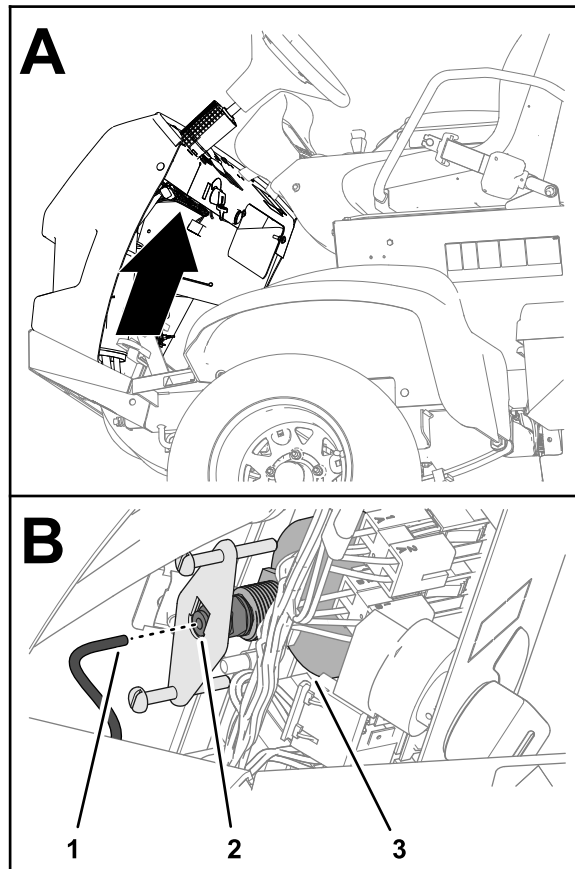

Figure 123
1. Insert the pressure-gauge tube into the tube coupler at back of the pressure gauge (Figure 123).